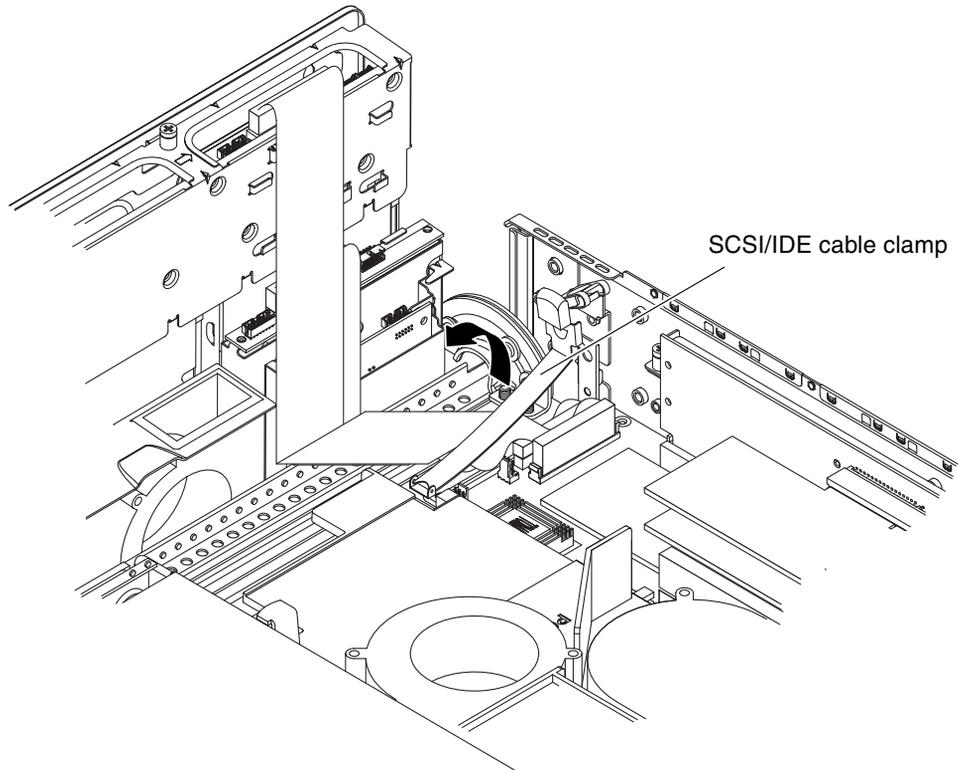

FIGURE 4-4 Lifting the SCSI/IDE Cable Clamp
- 8. Lift the SCSI/IDE cable clamp out of the way (FIGURE 4-4).**
The cable clamp is attached to the chassis and has a green cap. See FIGURE 4-4 for the location of this clamp.